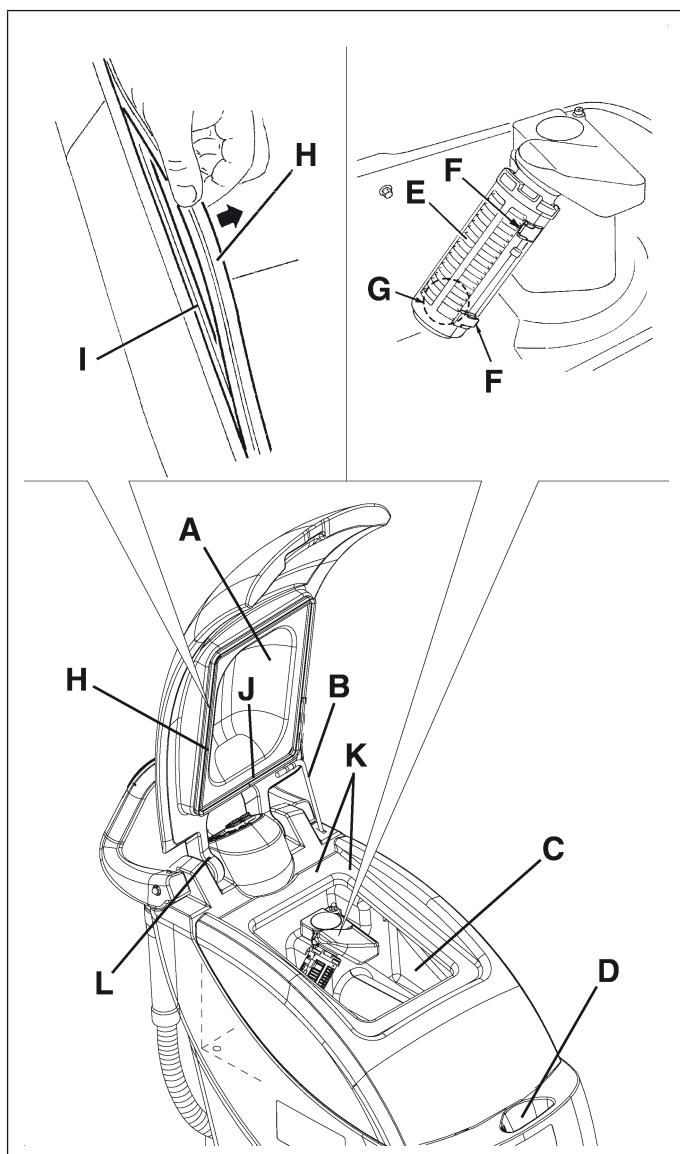

Figure 19
3. Lift the cover (A, Fig. 19) and apply the cover stand (B), then clean and wash the cover, the tanks (C and D) and the vacuum grid (E) with clean water.
5. If necessary, release the retainers (F, Fig. 19), open the vacuum grid (E), remove the float (G), then carefully clean and reinstall them.
6. Check the cover sealing gasket (H, Fig. 19) of the recovery tank for wear.
The gasket (H, Fig. 19) creates vacuum in the tank, which is necessary for the vacuuming of the recovery water.
- If necessary, replace the gasket (H, Fig. 19) after removing it from the housing (I).
- When reassembling the new gasket, install the joint (J) in the central area, as shown in Fig. 19.
6. Check the gasket (H, Fig. 19) seating surface (K) for integrity and sealing capabilities.
7. Check the vent hole (L, Fig. 19). If clogged, clean it.
The hole (L, Fig. 19) compensates the air in the cover interspaces, thus allowing the creation of vacuum in the recovery tank.
8. Remove the cover stand (B, Fig. 19) and close the cover (A).